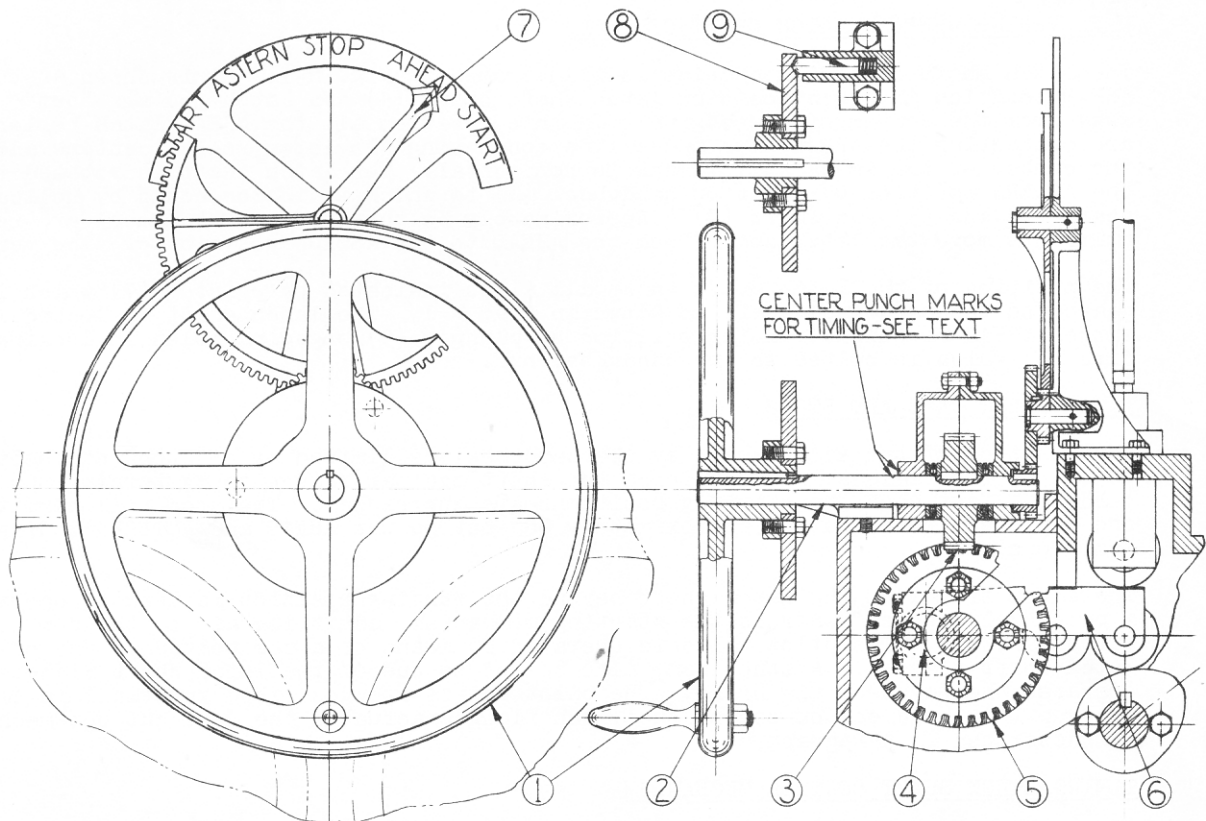

FIG. R-1
In Atlas engines the AHEAD and ASTERN cams are mounted side by side on the camshaft. Referring to Fig. R-1 it will be noted that latches equipped with two rollers are interposed between the cams and the valve lifter rollers. The two latch rollers are offset and lined up relative to the cams in such a manner that in the AHEAD position of the latches one set of rollers contact the AHEAD cams while at the same time the other set of rollers are free of the ASTERN cams. (Astern cam not shown in Fig. R-1) Thus in the position shown in Fig. R-1 the AHEAD cams actuate the latches which in turn actuate the valves by means of the lifters, push-rods and rockers.
The latch shaft control mechanism is illustrated in Fig. R-1. It is shown in the AHEAD position in which position latch shaft crank (4) and latch (6) are "out" away from the center of the engine. In this position all the AHEAD latch rollers are contacting the AHEAD cams and a line connecting the latch roller centers and the center of the latch shaft crank is horizontal. The latch shaft is rotated to the ASTERN position by means of handwheel (1) to which it is connected by helical gears (3) and (5) and shaft (2). Approximately 3½ turns of the handwheel are required to move the latch shaft from the AHEAD to the ASTERN position or vice versa.
The position of the latch shaft is at all times indicated by pointer (7) which is geared to the handwheel shaft as shown in Fig. R-1. The latch shaft is locked in either AHEAD or ASTERN running position by plunger (9) engaging holes in locking disc (8) which is bolted to the handwheel hub.
pointer is mounted on one of the latch shaft bearings for this purpose, and the shaft should be spotted so that the line scribed on the corresponding shaft flange exactly registers with this pointer. Then, with the handwheel in the AHEAD position, as indicated by the register of center punch marks on the handwheel shaft and the end of the bearing housing (See Fig. R-1) mesh helical gears (4) & (5). NOTE: Before dismantling the handwheel assembly observe whether or not these parts have been marked. If not, mark them as indicated, with the latch shaft in the AHEAD running position. The handwheel and gear assembly may then be bolted in place and the indicator assembled, meshing the gears with the pointer midway between AHEAD and START.
In the following the sequence of events as they take place when reversing the engine from AHEAD to ASTERN are described. Assuming that the engine is running the indicator pointer (See Fig. R-1) is in front of AHEAD and locking pin is registering with the hole in the locking disc. The handwheel is then turned in a direction to move the pointer toward "STOP" and when the wheel has been rotated approximately 90° the fuel cutout mechanism (See Paragraph 8) operates to pull out the fuel wedges and the engine begins to slow down. When the handwheel has been turned approximately one revolution from the "AHEAD" position the air brake pilot valve opens applying the brake and stopping the engine. When the indicator pointer reaches "STOP" the operator should hold the handwheel in this position until the engine has come to a full stop. Further rotation of the hand-wheel closes the air brake pilot valve and allows the fuel cutout mechanism to release the wedge shaft. After approximately  $3\frac{1}{2}$  turns of the handwheel the latch shaft is in the ASTERN position and indicator pointer in front of ASTERN.
The handwheel can still be moved an additional 80 to 90° before the latch shaft comes up against its stop. This additional movement operates the pilot valve for the starting mechanism (See Paragraphs 5 and 7) and the engine begins to turn over on air. Almost immediately it begins to fire and the handwheel should then be turned back to bring the latch shaft in the ASTERN position which is reached when locking plunger (9) (See Fig. R-1) enters the hole in the locking disc. The engine will then be under governor control, its speed being determined by the setting of the speed control lever and fuel pressure regulating valve lever.